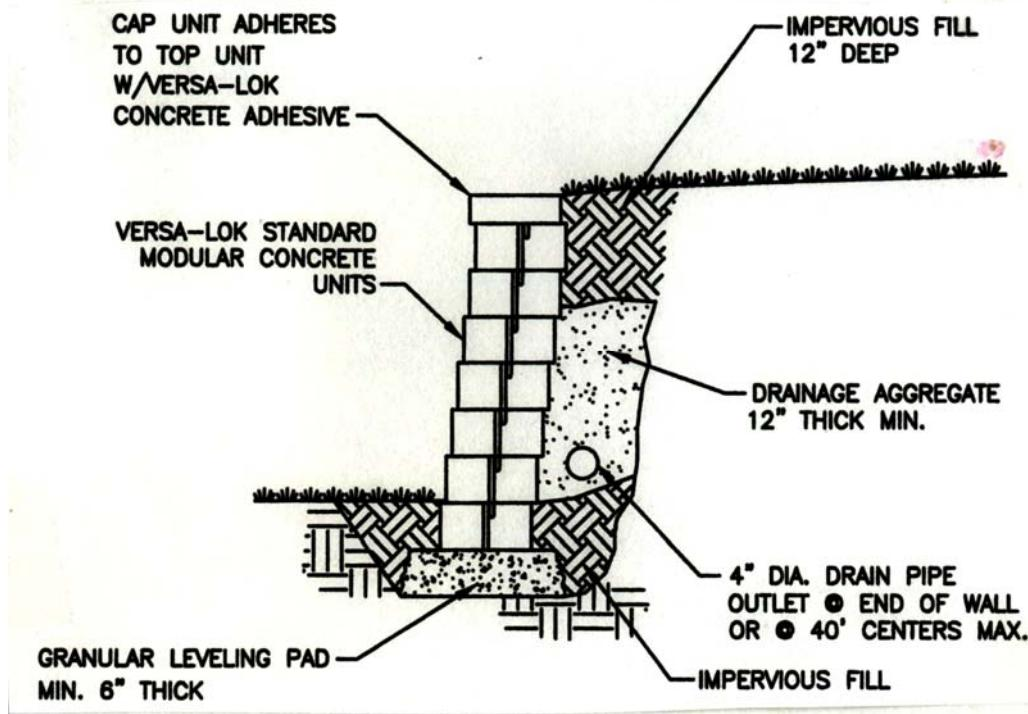
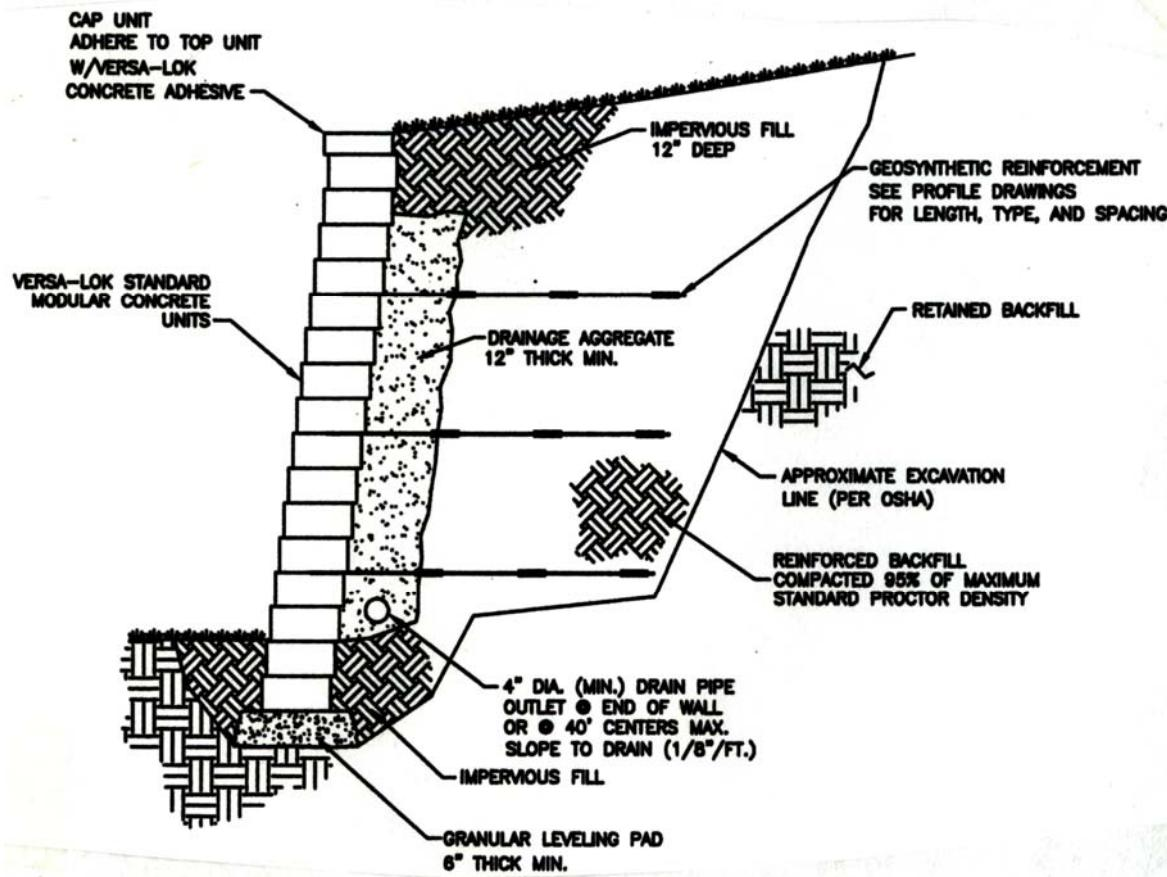

Figure 8. Components and construction of a non-reinforced retaining wall.
Figure 9. Components and construction of a reinforced retaining wall.
9. Completed Wall Illustrations – Figure 8 and Figure 9 illustrate the proper components and construction of non-reinforced and reinforced retaining walls respectively.
5. If the wall is going to be taller than three feet, perforated drain tile should be placed behind the base course and then covered with drainage aggregate (Figures 8 and 9).
7. After two or three courses of stone are stacked, backfill the wall with drainage aggregate. To do this, lay the geo-textile fabric on the soil behind the wall, and place the drainage aggregate between the wall and the fabric (Figures 8 and 9). The aggregate should be at least eight inches from the wall to the fabric. Compact the aggregate thoroughly. It may be necessary to fill soil in behind the fabric as the stone is added.